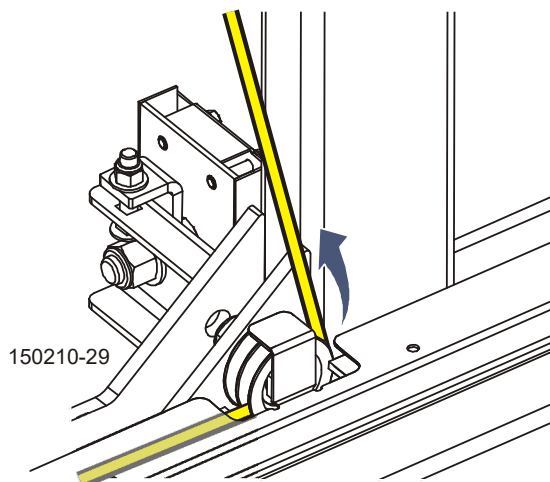

FIG. 3-11
6. Loop the feed rope around the outer groove of the lower pulley. See FIG. 3-11.